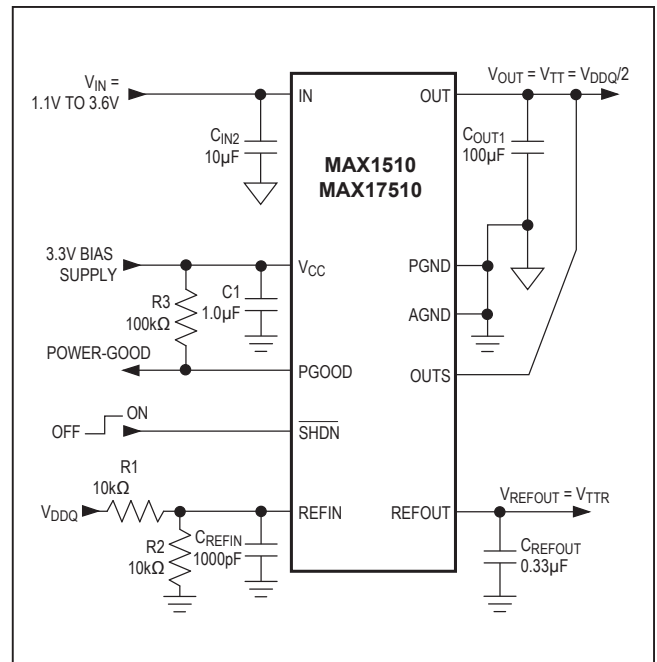

Figure 1. Standard Application Circuit
(VIN = 1.8V, VCC = 3.3V, VREFIN = VOUTS = 1.25V,  $\overline{\text{SHDN}}$  = VCC, circuit of Figure 1, TJ = TA = -40°C to +85°C for MAX1510ETB, TJ = TA = -40°C to +125°C for MAX17510ATB, unless otherwise noted. Typical values are at TA = +25°C.) (Note 1)
( $V_{IN} = 1.8V$ ,  $V_{CC} = 3.3V$ ,  $V_{REFIN} = V_{OUTS} = 1.25V$ ,  $\overline{SHDN} = V_{CC}$ , circuit of Figure 1,  $T_J = T_A = -40^\circ C$  to  $+85^\circ C$  for MAX1510ETB,  $T_J = T_A = -40^\circ C$  to  $+125^\circ C$  for MAX17510ATB, unless otherwise noted. Typical values are at  $T_A = +25^\circ C$ .) (Note 1)
(Circuit of Figure 1.  $T_A = +25^\circ\text{C}$ , unless otherwise noted.)
The MAX1510/MAX17510 are low-voltage, low-dropout DDR termination linear regulators with an external bias supply input and a buffered reference output (see Figures 1 and 2). VCC is powered by a 2.7V to 3.6V supply that is commonly available in laptop and desktop computers. The 3.3V bias supply drives the gate of the internal pass transistor, while a lower voltage input at the drain of the transistor (IN) is regulated to provide VOUT. By using separate bias and power inputs, the MAX1510/MAX17510 can drive an n-channel high-side MOSFET and use a lower input voltage to provide better efficiency.
The MAX1510/MAX17510 regulate OUTS to the voltage set at REFIN, making the devices ideal for memory applications where the termination supply must track the supply voltage. Typically, REFIN is set by an external resistive voltage-divider connected to the memory supply (VDDQ) as shown in Figure 1. The maximum output voltage of 1.5V is limited by the gate-drive voltage of the internal n-channel power transistor.